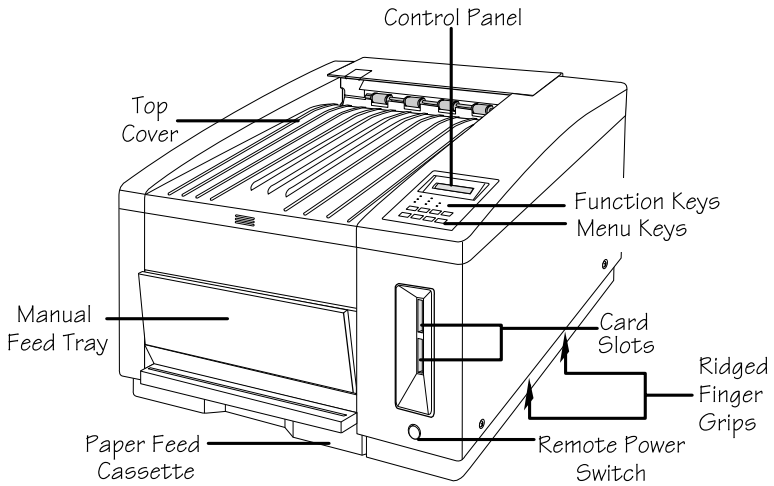

Fig. 2.3 Front View of the Printer
3. Before you begin setup, take a few minutes to look over figures 2.3 and 2.4. They provide a quick overview of the exterior parts of your printer.